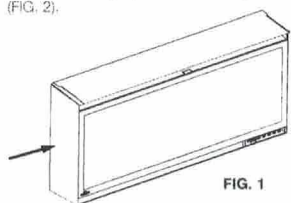
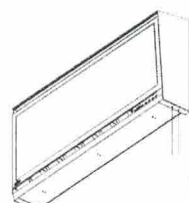

FIG. 1
FIG. 2
- Install left and right panels (FIG. 1) by securing 4 fasteners (2 per panel) to bottom of appliance (FIG. 2).